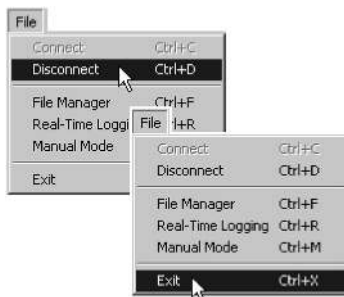

Figure 4-12. File->Disconnect then File->Exit
7. Click **File->Disconnect**, then **File->Exit** to quit PC-CDU (Figure 4-12).